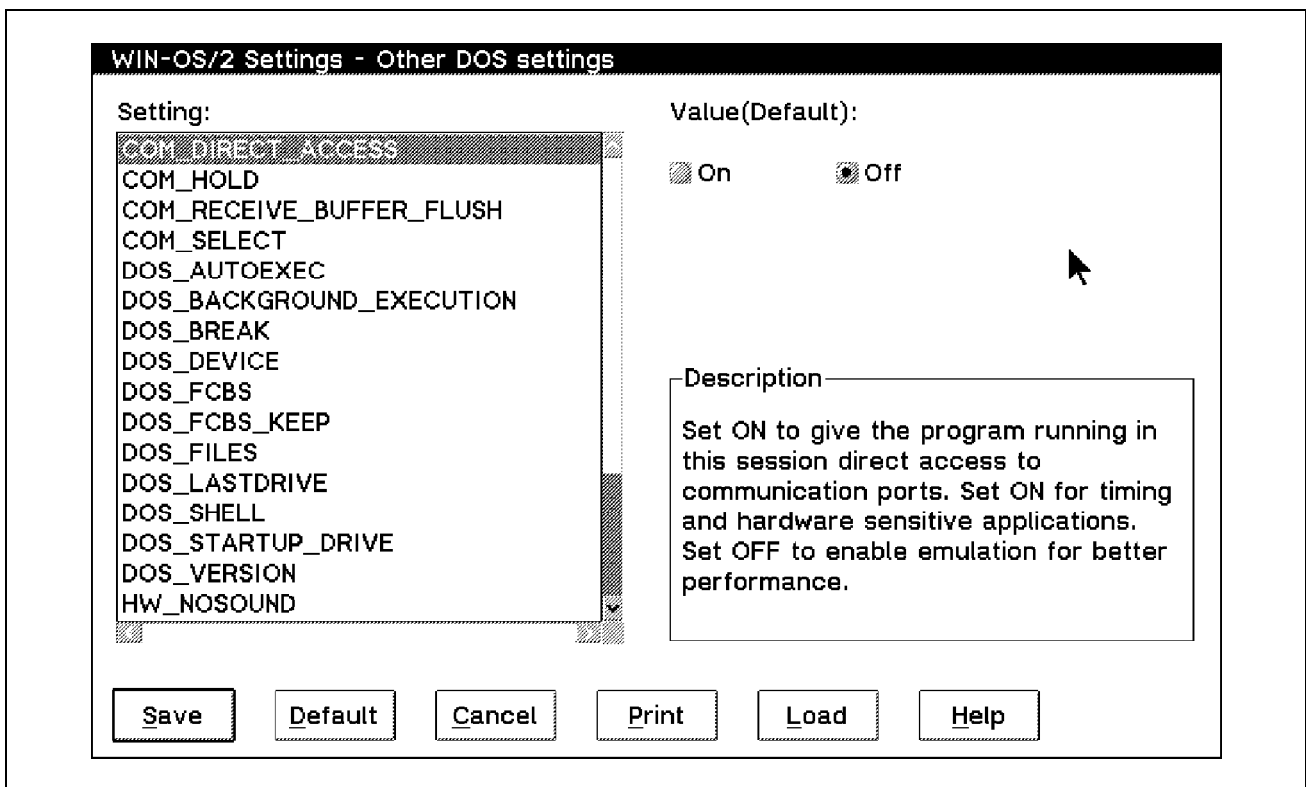

Figure 100. The Other DOS Setting Page
- Click on **Other DOS settings** and select **Ok**. The setting page appears as seen in Figure 100.